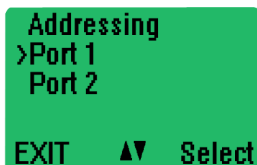

Figure 74: Main Menu – Port 1 Setting
1. Press the *down* arrow soft key to move the cursor down the main menu to *Port 1* (see Figure 74).